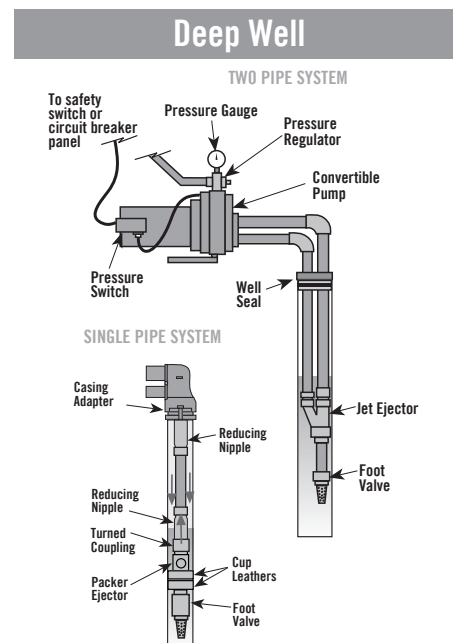

Figure 3
4. Install the foot valve. Refer to Figure 3.
6. Install a sanitary well seal at the top of the well. For installations using poly pipe, add poly pipe adapters and short nipples to the pipe as it enters the well seal to prevent collapse of the pipe (Figure 3).